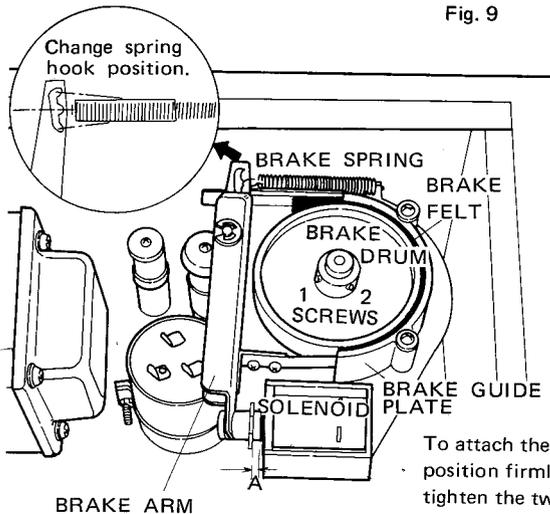

Fig. 10
- Is A in Fig.10 4mm when the solenoid is not operating?
#### ● Adjustment (Figs. 10, 11)